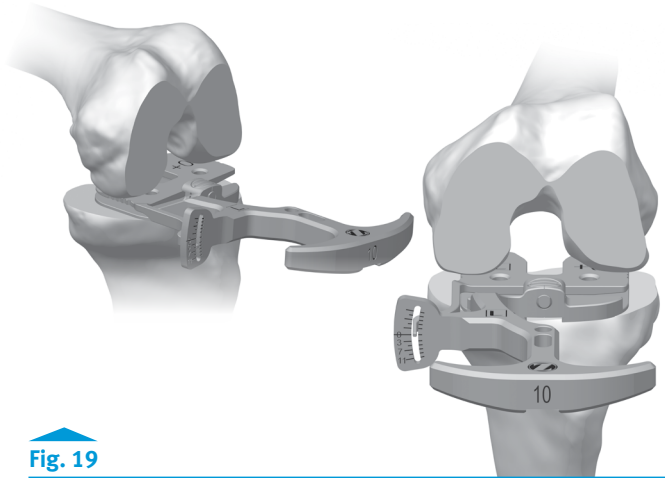

Fig. 19
- Remove the *Zimmer FuZion* Spacer Block from the extension gap. Disassemble the *Zimmer FuZion* +9mm Femoral Paddle from *Zimmer FuZion* +0mm Femoral Paddle. Bring the leg into 90° of flexion. Insert the *Zimmer FuZion* Spacer Block between the cut tibial surface and the uncut posterior condyles, as shown (Fig. 19).
- Ensure that the posterior condyles are contacting the flat surfaces of the medial and lateral sides of the femoral paddle, that the tibial paddle is sitting flush against the tibial surface and that joint is tensed. Read the angle in the angle display. If the angle is in the positive portion of the angle display, set your *Persona* Posterior Referencing Sizer to that angle (external rotation). If the scale is in the negative portion of the angle display (portion of the angle scale without numbers) the medial compartment is opening wider than the lateral and the appropriate steps should be made to insure a rectangular flexion space when the posterior resection is made (Fig. 19). If the collateral soft-tissue does not provide adequate stability, the surgeon should use his/her professional medical judgment to assess whether a more constraining implant/system or revision implant/system is necessary.